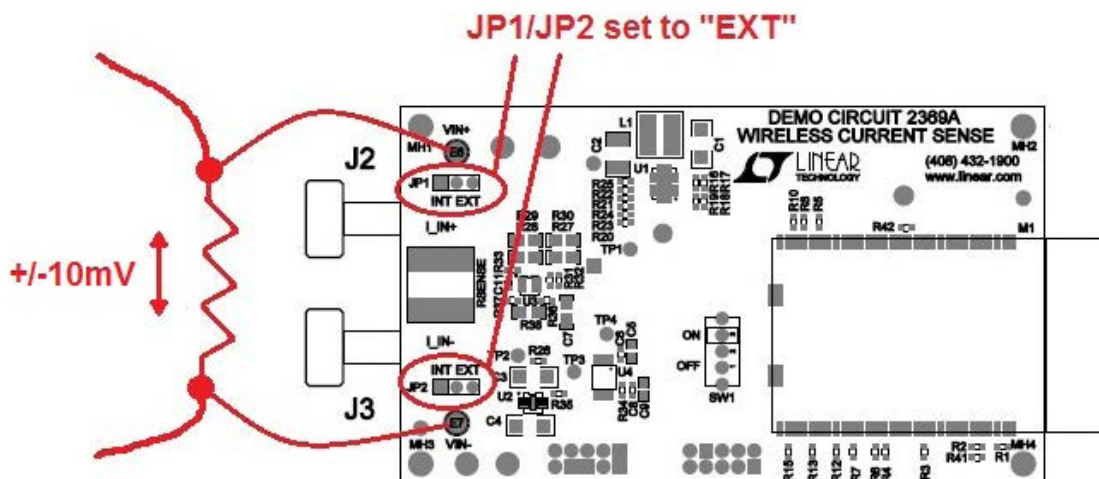

Figure 2. DC2369A Connections and Jumpers for External Sense Resistor
3. Alternatively, DC2369A can be used to measure the voltage across an external sense resistor. In this case, set jumpers JP1 and JP2 to EXT, and connect the voltage to be measured to the turrets labeled  $V_{IN}^{+}$  and  $V_{IN}^{-}$ . The preconfigured DC2369A firmware and software will still assume a  $\pm 10mV$  full-scale input voltage and report that as a  $\pm 1A$  full-scale current. See Figure 2.